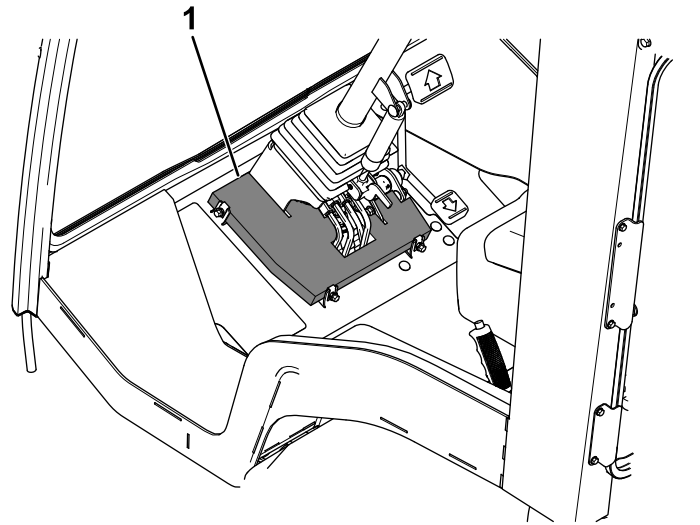

Figure 4
4. Install the upper steering plug (Figure 4).